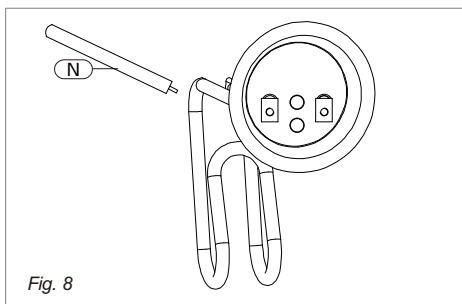

Fig. 8
The purpose of the anode rod (Fig. 8, [N]) is to protect the tank against corrosion. It is critical that the anode rod be inspected once a year to determine whether it requires replacement. To access the anode rod, it must first be removed (see Section 5.4 Removing the heating element). Upon
- Remove and replace the anode rod (Fig. 8, [N]).